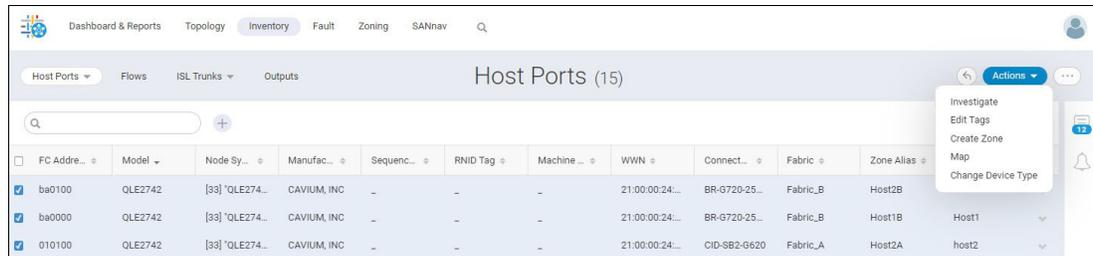

Figure 5-57 Connecting HBA ports to a fabric by server administrators
3. Locate the ports for which you want to create zones. Bulk select ports, and then select **Create Zone** from the **Actions** drop-down menu (Figure 5-57).